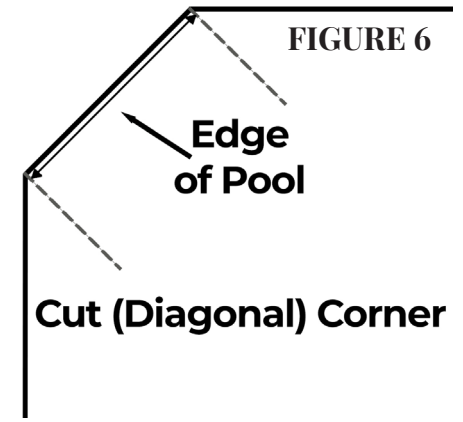

FIGURE 6
- Cut (diagonal) corners must be measured. Refer to Figure 6.